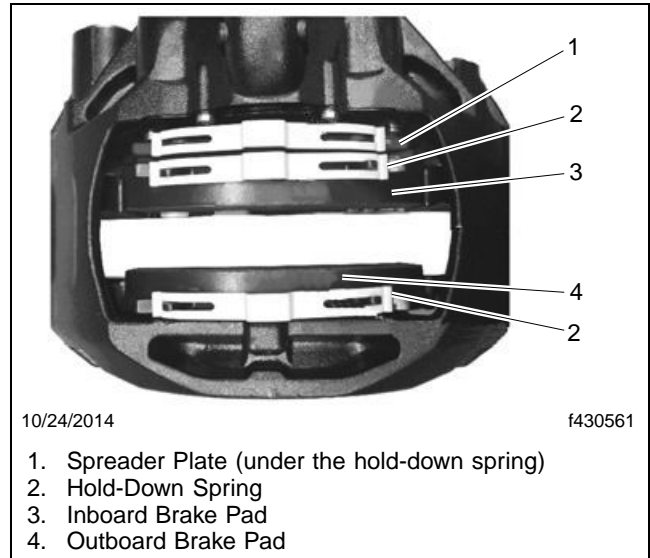

Fig. 5, Removing the Hold-Down Springs
26. Remove the hold-down spring from the spreader plate. See **Fig. 5**. The spreader plate can be used again, provided it is in good working condition.